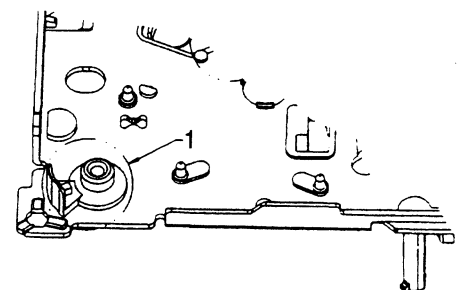

Figure 22
- Carefully lift the damping gear pos. 16 / 17 / 92 by a screwdriver as shown in the figure and remove it.
- Remove switching lever pos. 49.
- Remove swivel lever assy pos. 47.
- Take out connection wheel pos. 19.
- Take out gear cluster pos. 15.
6.17 Diverting wheel pos. 10
- Remove belt pos. 3.
- Note: When re-assembling, grease the wheel bearing in accordance with figure 22 and insert a *new* belt!
6.18 Coupling lever assy pos. 65
- Remove damping gear assy pos. 16 / 17 / 92 (see '6.16'). Leave this assy complete!
- Remove switch lever assy pos. 49 (see '6.13').
- Remove connection wheel assy pos. 19.
- Remove coupling spring pos. 66.
- Shift the coupling slider pos. 67 completely backward and remove it with help of a pair of tweezers.